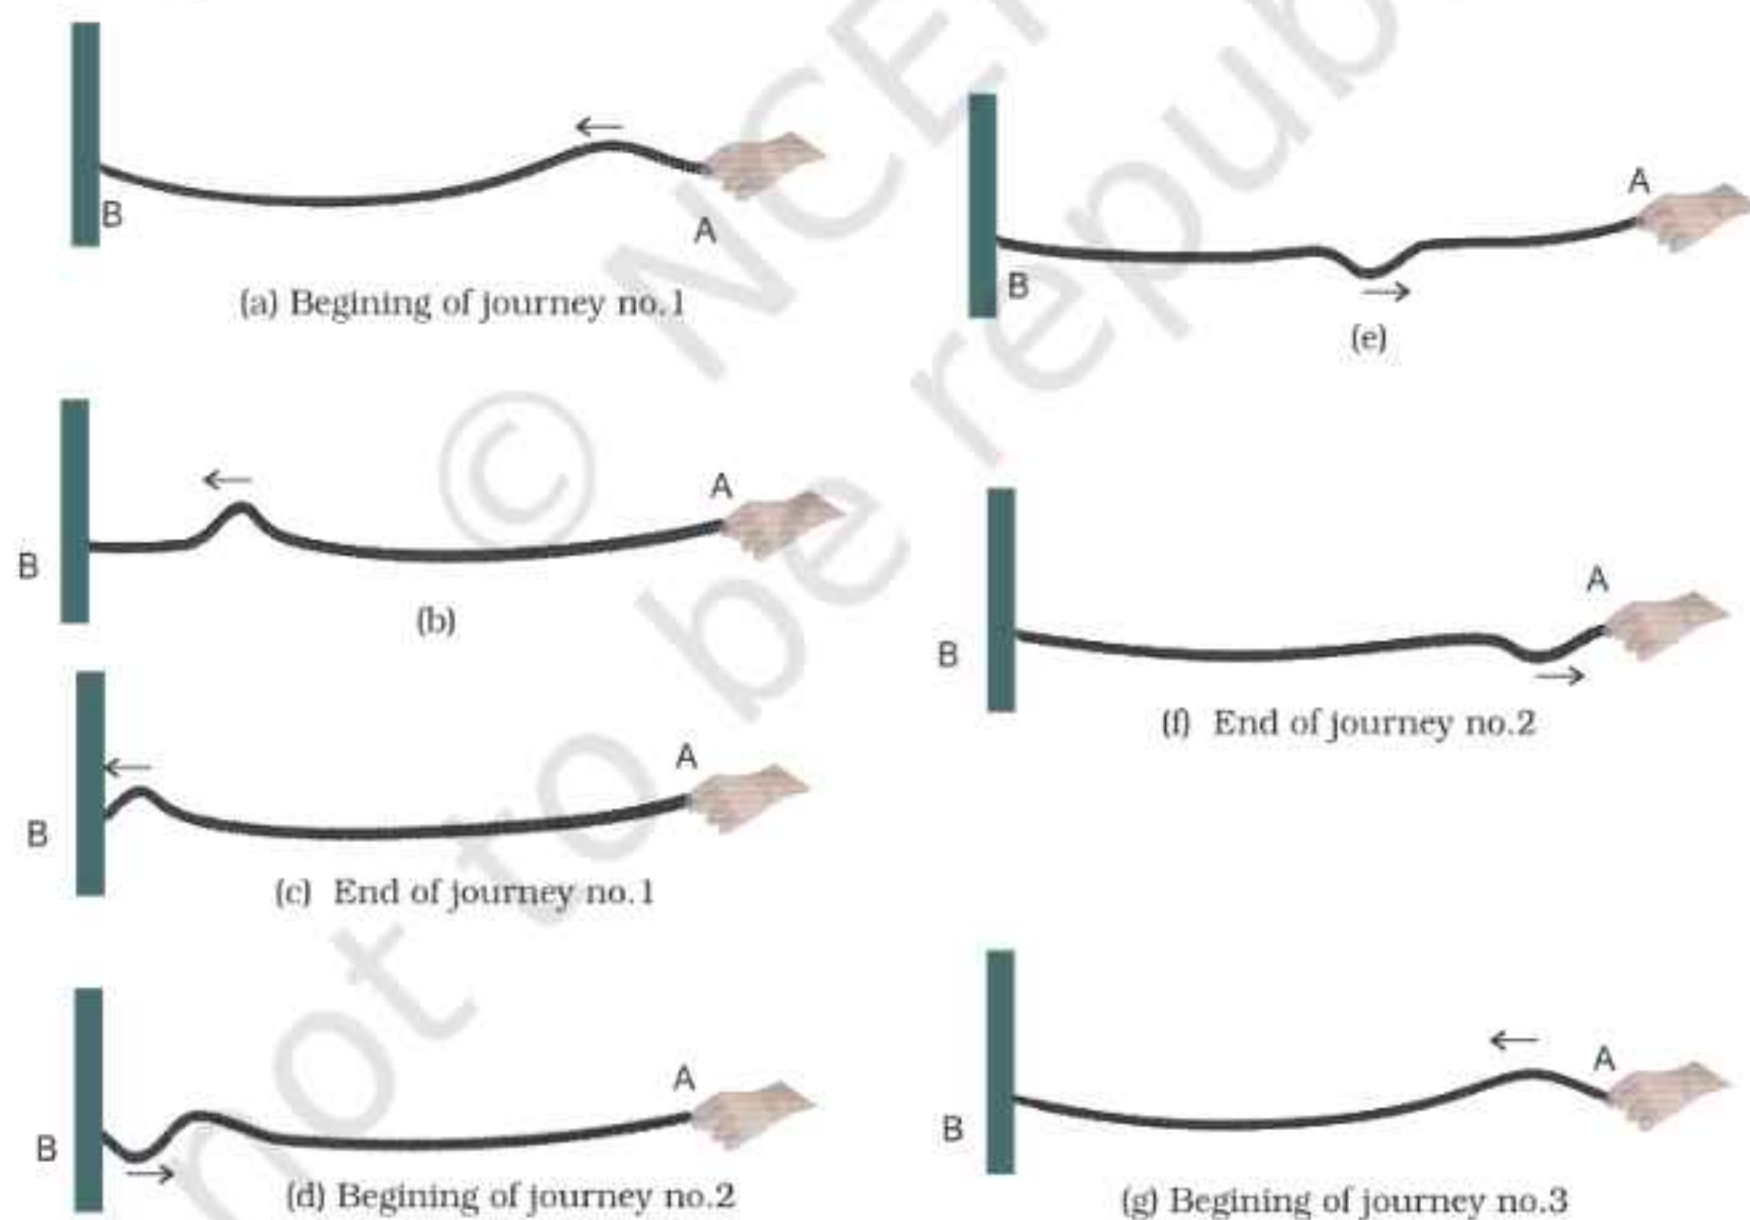

Fig. 42.1(a-g) : A pulse moves back and forth along a string fixed at both ends before it dies out
The motion of a transverse pulse can be observed on a long stretched string that is fixed at one end. A hump created at one end of the string by giving it a jerk, is an example of a transverse pulse. A sudden pulse created at the end, held in hand moves, to the other end along the string where it dies out. However, if the string is fixed at both the ends the pulse may reflect back and forth a few times before it dies out [Fig. 42.1(a-g)]. The speed of a pulse along the string can be determined by measuring the time taken T by it to travel through a known length of the string l . The length of the string divided by the time gives the speed of the pulse in the string. That is,
5. Holding one end of the stretched string give it a jerk to create a pulse. Ask one of your friends to switch on the stop-watch or clock as soon as you give a jerk to the stretched string. Measure the time taken by the pulse to make n number of journeys along the entire length of the string between its two ends [Figs. 42.1(a-g)]. This could be possible if the pulse moves back and forth along the string a few times before it dies out. The starting and closing of the stop-watch or stop-clock must be simultaneous with the creation of the pulse and its arrival at the end up to which the measurement are to be taken. Care should also be taken in counting the number of times the pulse travels through the entire length of the string.